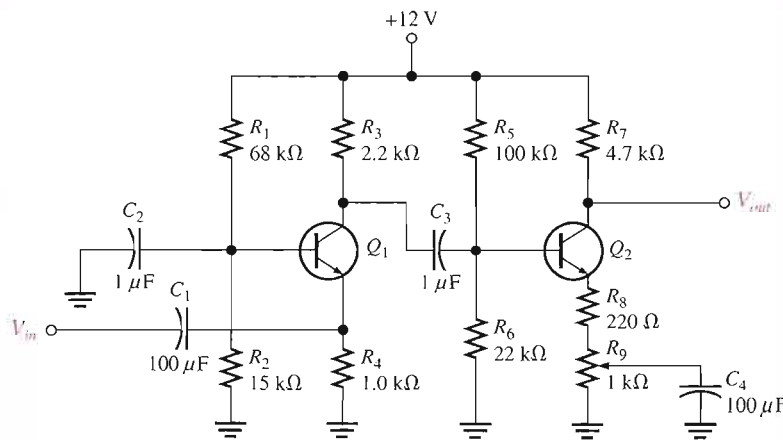

FIGURE 8–28
2. Assume that C_2 in the amplifier of Figure 8–26 opened. What symptoms would indicate this failure?
A schematic of the BJT (bipolar junction transistor) amplifier currently used in the public address/audio paging system is shown in Figure 8–28. (See the system application in Chapter 6.)
The basic design for one stage of a MOSFET amplifier using a 2N3797 is shown in Figure 8–29. You are to evaluate it to determine if it can be used in a multi-stage amplifier to provide the same voltage gain as the bipolar version.
- Using the data sheet in Figure 8–30, determine the minimum and maximum dc drain-to-source voltages. Remember, for a zero-biased D-MOSFET, the drain current equals I_{DSS} .
- Using the data sheet in Figure 8–30, determine the minimum and maximum voltage gains.